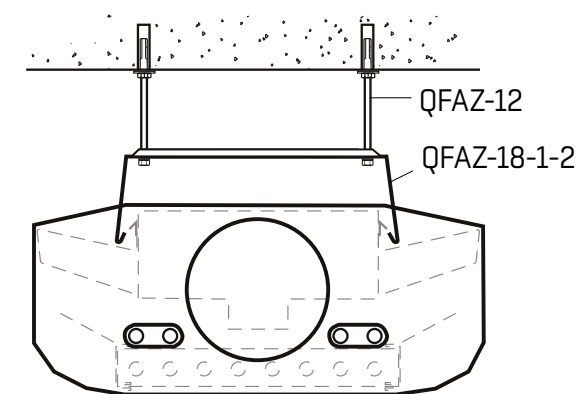

FIGURE 6
- 2) Next, snap the NOVA II IQFI into the fastening brackets. (See **FIGURE 6**)